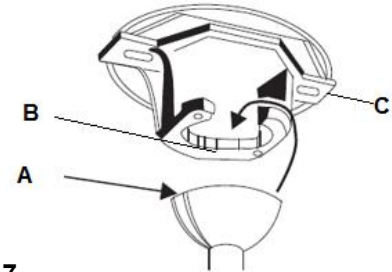

Fig. 7
Lift the fan assembly onto the mounting bracket. Ensure the **key slot (A)** of the hanger ball is positioned on the **key pin (B)** of the mounting bracket (C) to prevent the fan from rotating when in operation. **Fig.7**